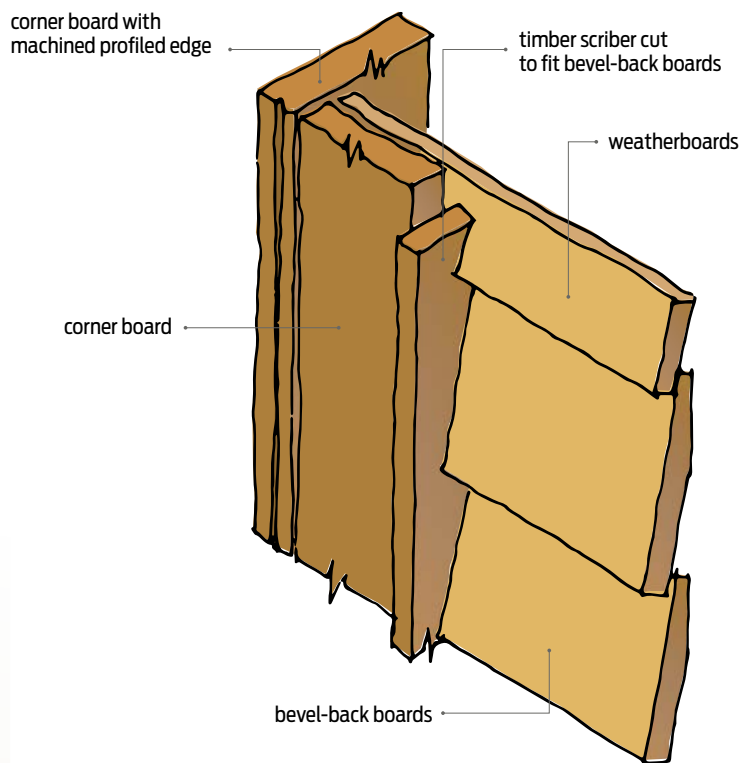

Figure 1. Corner boards with scribes on bevel-back cladding.
- At external corners, make very clean sealed cuts to ensure tight mitred joints, with either a 50 x 50 mm corner flashing behind or corrosion-resistant soakers. Another option is a corner box with scribes (Figure 1). Soakers and/or precut scribes are usually available from weatherboard suppliers.